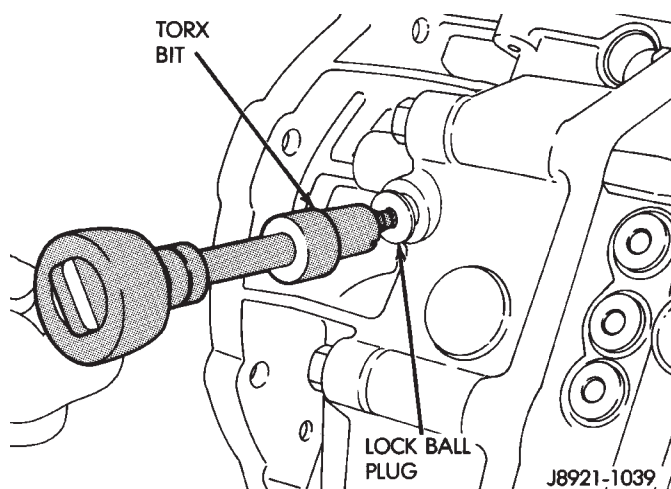

Fig. 9 Removing/Installing Lock Ball Plug
- (10) Remove plug for reverse shift head lock ball. Plug is at right side of adapter housing near backup light switch (Fig. 9).